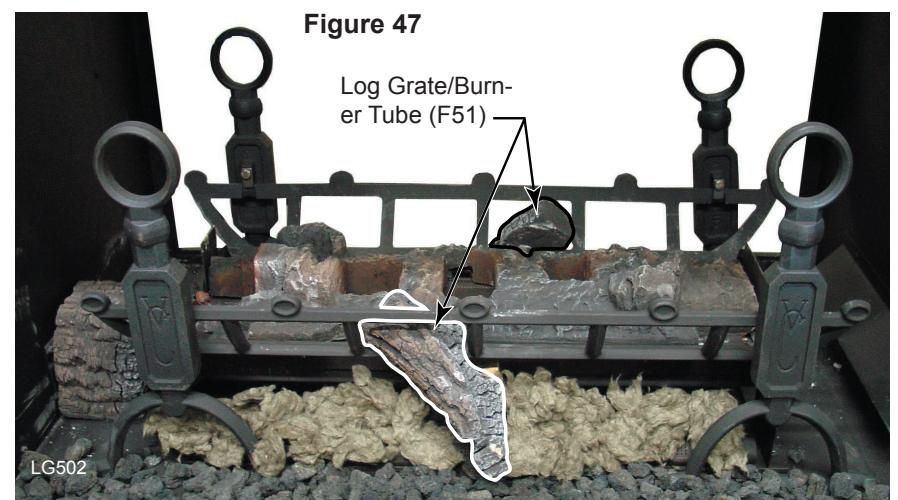

Figure 47
7. Position the log grate/burner tube. (Fig. 47) Hold the log with the pointed end down and the flat surface away from you. Slide the wider end of the log at an angle in the third opening "middle" of the fettle. Hook the log on the fettle and set down over the burner tube assembly. Repeat the same procedure on the opposite side.